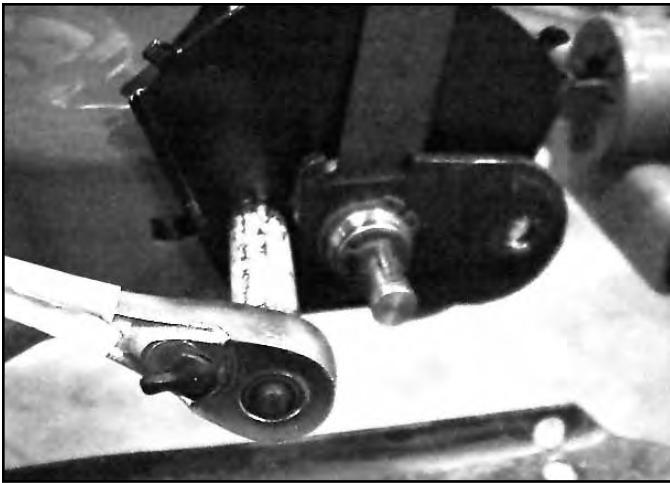

Fig 045 MVC-475a
9. Remove the two bolts and nuts securing each pivot arm to the housing. There is a notch in the pivot arm for clearance of a socket (Fig. 045).